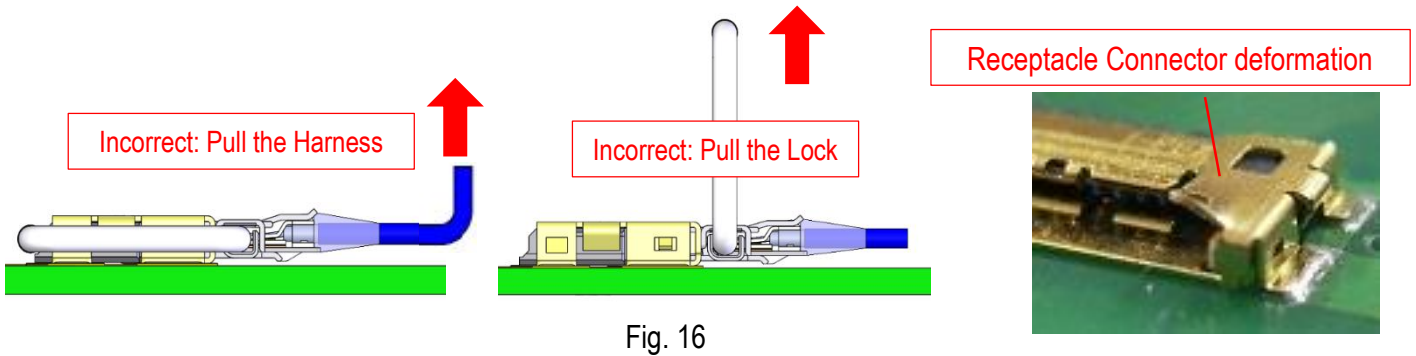

Fig. 16
2. Do not pull the cable, lock bar, or harness to upward as shown in fig.16.